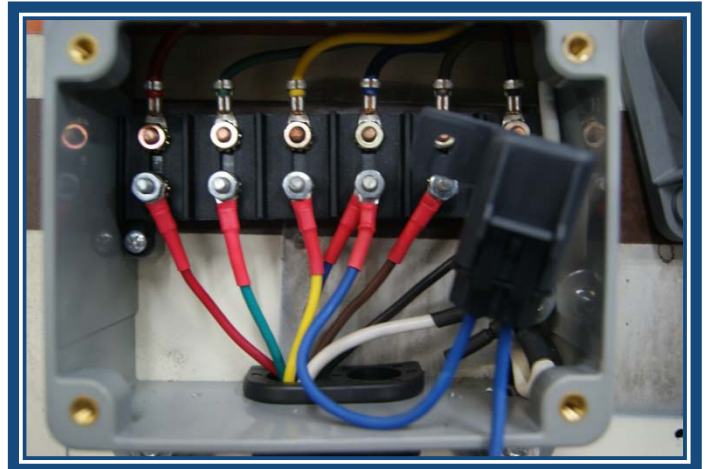

Figure 23
**Step 23:** Connect the blue fuse assembly ((E) 11020FH-2) from the bag kit to the 7-way aux pin (B). Tighten properly. (See Figure 23)